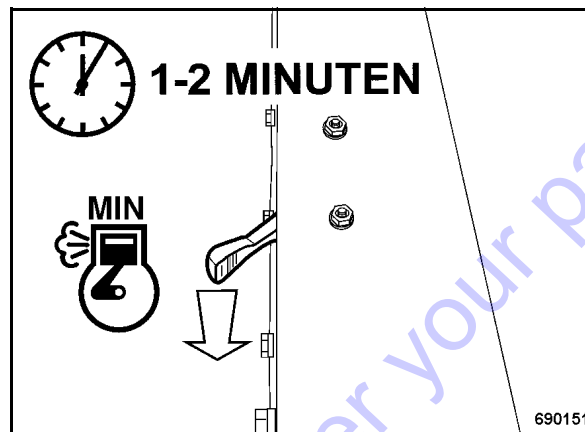

Fig. 23
- Set the throttle lever (Fig. 23) to position "MIN".